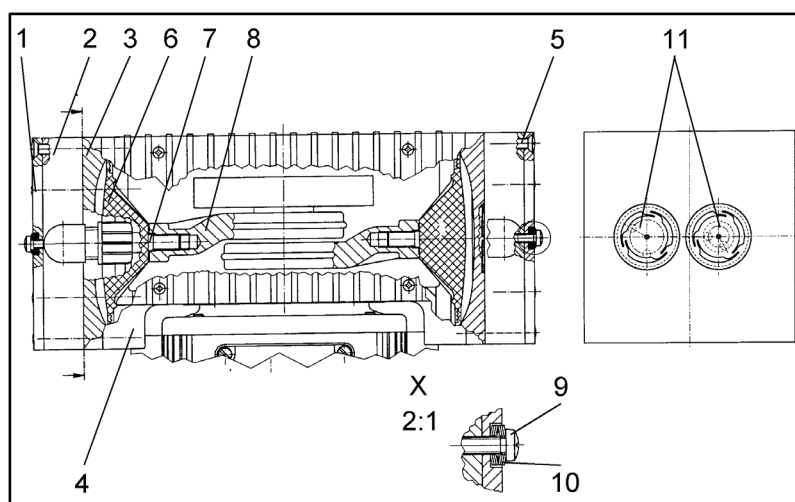

Fig. 10: Pump heads FTE types (symbolic)
i The position numbers in the following text refer to Fig. 10.
1. Turn the fan to bring the structured diaphragm (6) to medium position.
2. Place the intermediate plate (3), with valve plates/sealings (11) on the housing, in the position indicated by the marking (M).
3. Place the head plate (2) on the intermediate plate (3) in the position indicated by the marking (M).
4. Place top plate (1) in position and insert screws (9) with disk springs (10), and tighten them until the screw heads are just fully seated (do not completely tighten them!).
- The concave side of the first three disk springs must point away from the screw head, the next three towards it (see Fig. 10, detail X).
5. Gently tighten the screws (5), evenly and diagonally.
7. Now tighten screws (5) firmly (tightening-torque: 8 Nm).
8. Tighten each of the screws (9) a half turn more (tightening-torque: 20 Ncm).